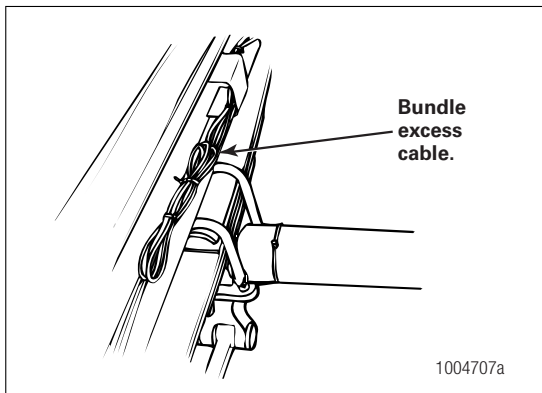

Figure 3.2
6. Fasten the sensor cable every 12 inches. Correctly bundle and store excess cable in the sub-frame. Figure 3.2.